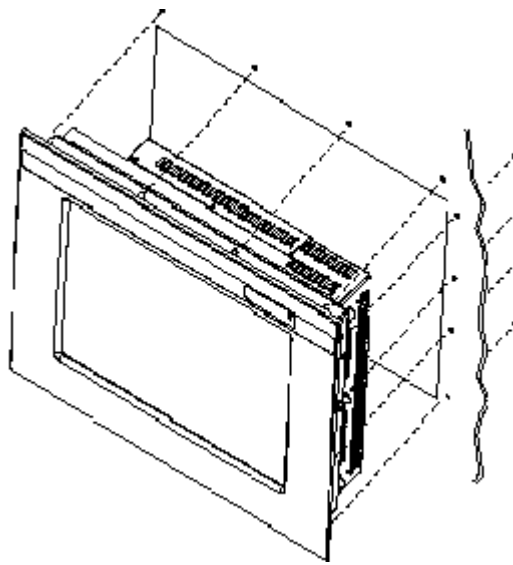

Figure 2: Panel Mount Drawing
1. Cut and drill the panel (refer to Figure 2; Panel Mount Drawing Appendix G). Measurements are in inches. A template of the hole pattern has been supplied with your monitor to assist in making the mounting holes accurately. Also, there is an AutoCad .dxf file included on the provided CD. This computer file can be used in a design drawing or forwarded to your panel fabricator for the proper mounting